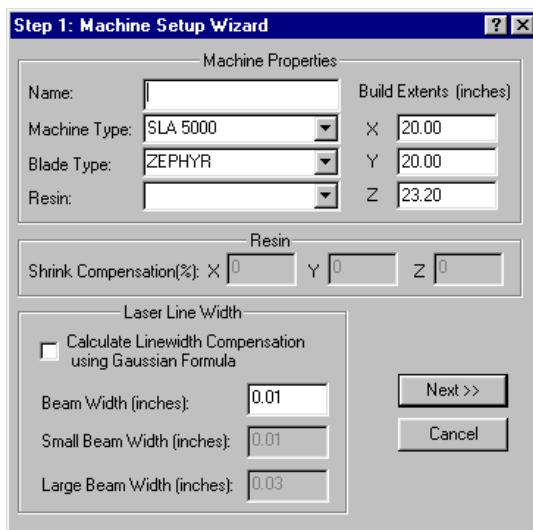

Figure 44. Step 1: Machine Setup Wizard Dialog
1. Click the "Machine Setup Wizard" ... icon to start the wizard. The first dialog looks something like the one in Figure 44.